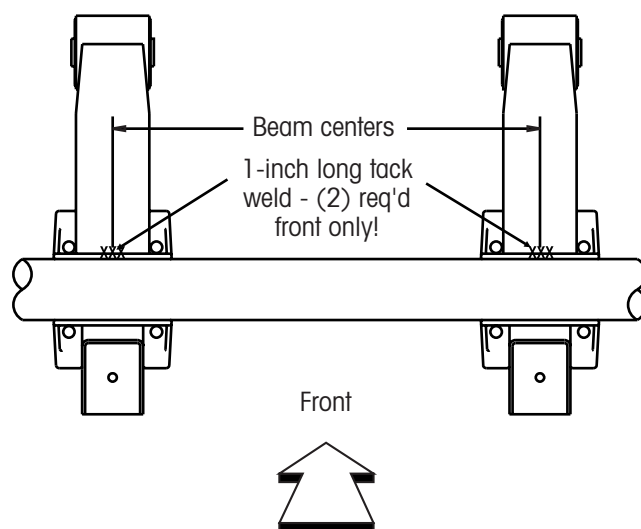

Figure 2. Locations of tack weld
3. Place a 1-inch long tack weld in the center of each forward trailing arm/axle connection. There is one tack weld per suspension beam (Figure 2).